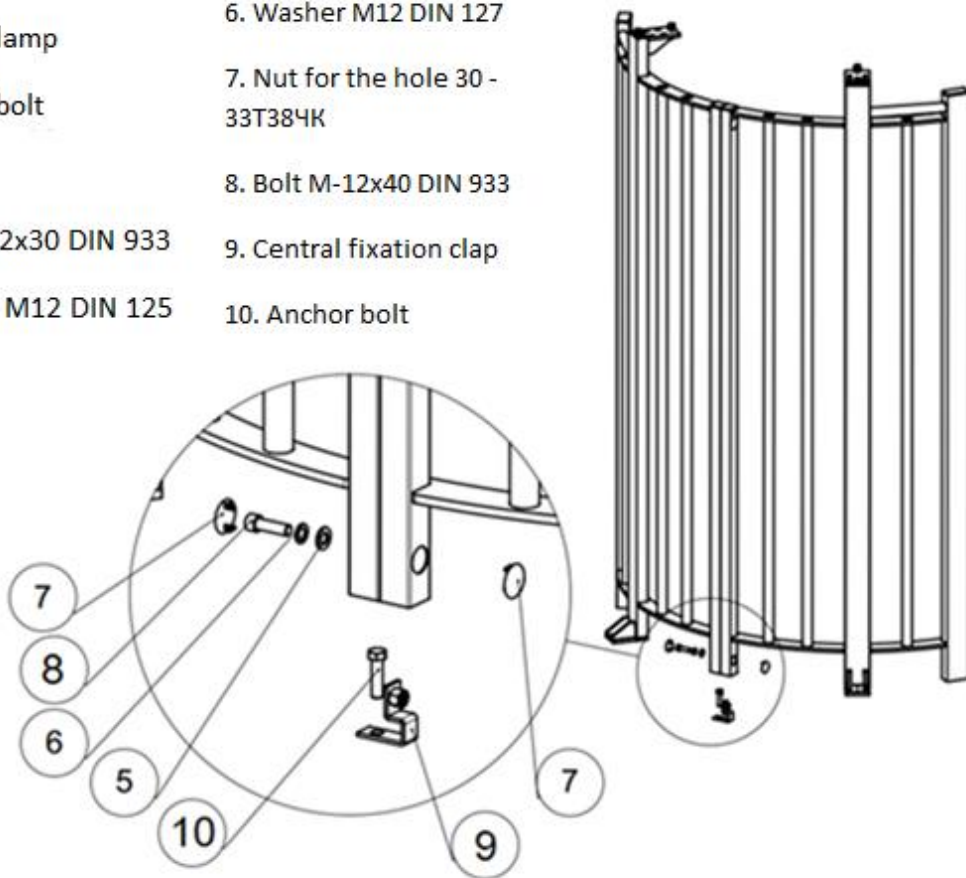

Fig. 8. Fixture of the fixed enclosure panel
4.2.9. Fix the fixed enclosure panel of the turnstile with the clamps 1 (2 pcs) and central clap 10, anchor bolts 2 and 10 M12 (Fig. 8) by screwing them into respective anchors by means of the 19-mm key.